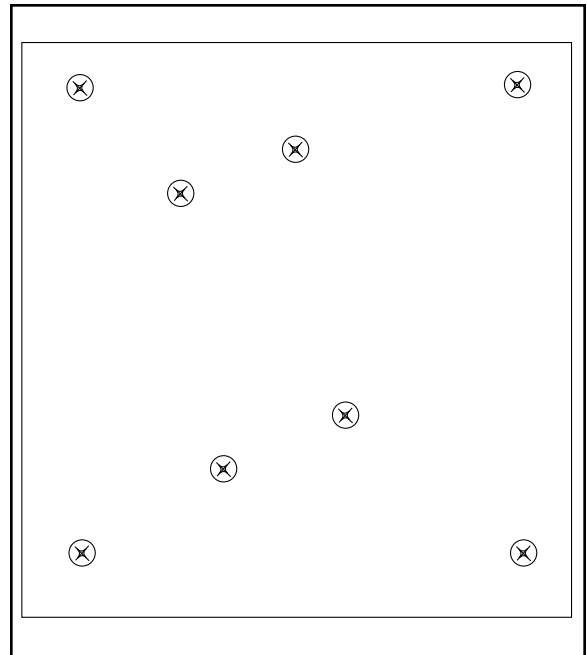

FIGURE F.10 - Control Board Mounting Locations may vary with different Code Machines.
4. Carefully remove the P.C. Board from the mounting standoffs. See Figure F.10.